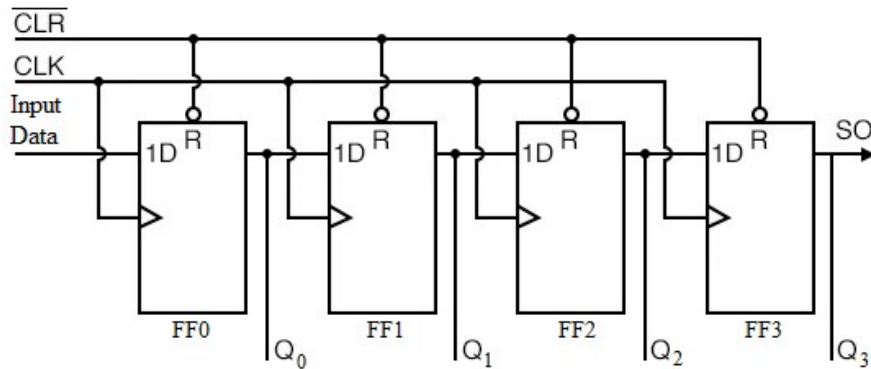

Fig. 3.2 Logic Diagram of Serial in Parallel out shift register
3.2.2 Serial in parallel out shift register: In this kind of register, data bits are entered serially in the same manner as discussed above. The difference is the way in which the data bits are taken out of the register. Once the data are stored, each bit appears on its respective output line, and all bits are available simultaneously. A construction of a 4-bit serial in parallel out register is shown in Fig. 3.2.